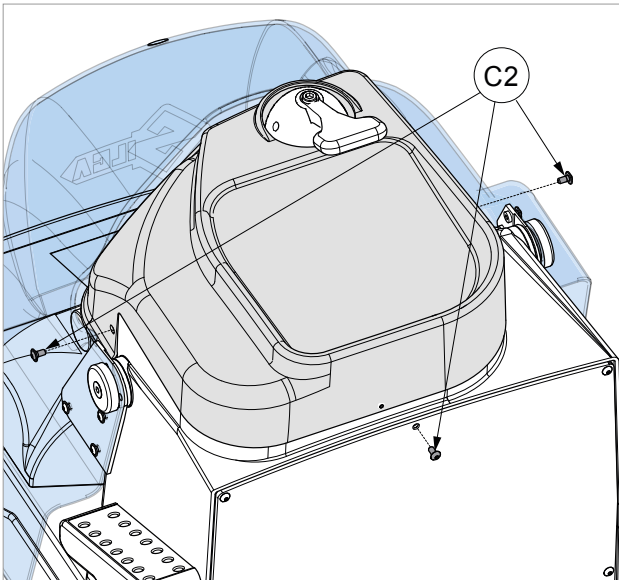

Fig. 35
- 3) Replace the belt cover and secure with the 3 screws (C2) (Fig. 35).